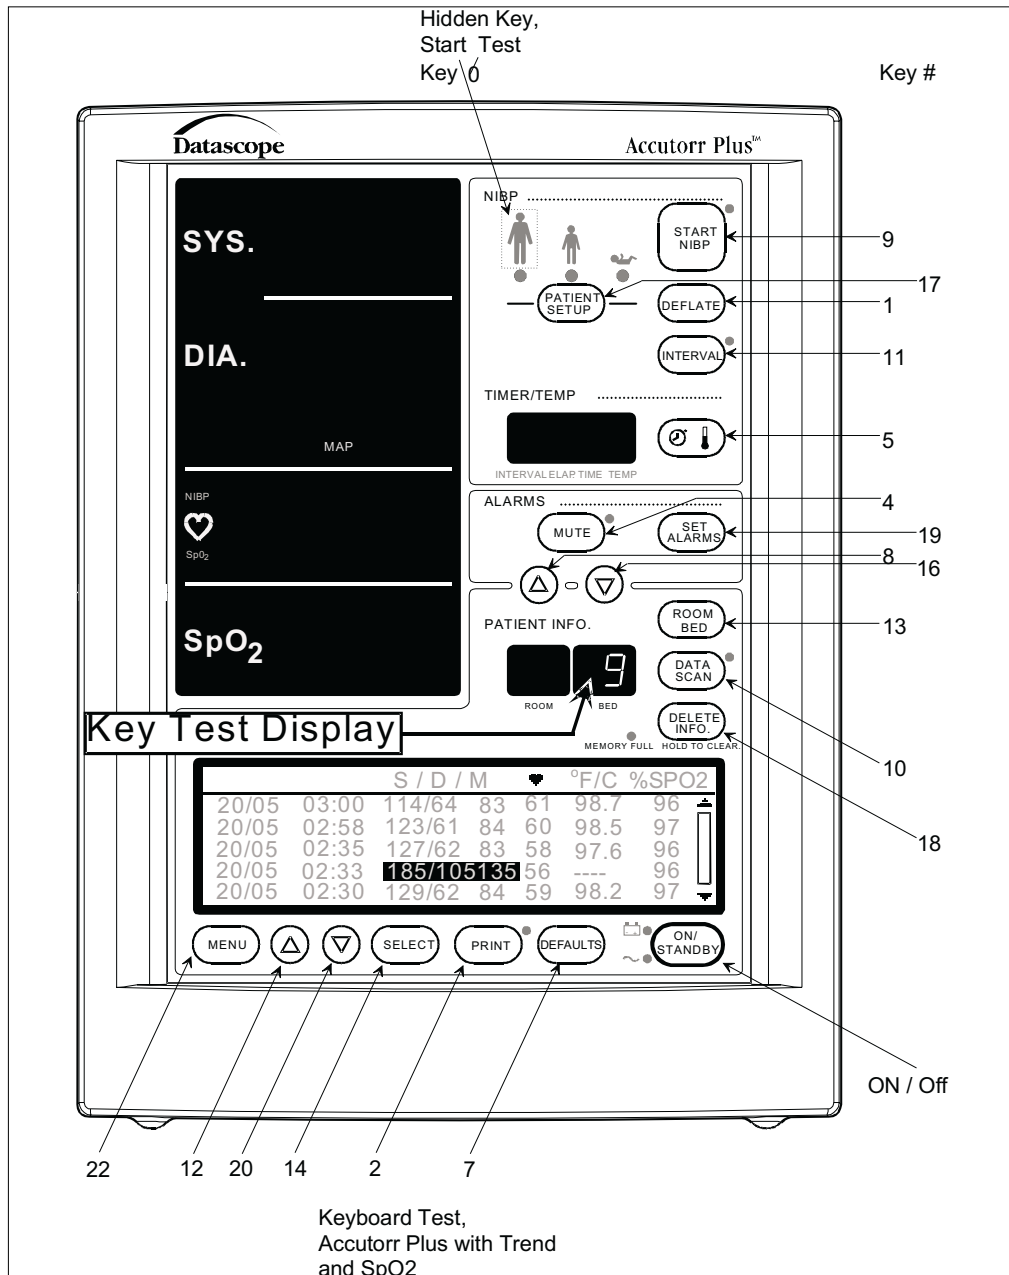

Figure 7-2
3. Press any key on the keyboard. A number will appear in the Patient Bed Letter Display. This number is identified in the figure 7-2. Verify that the correct number appears in the Patient Bed Letter Display when each key is pressed.